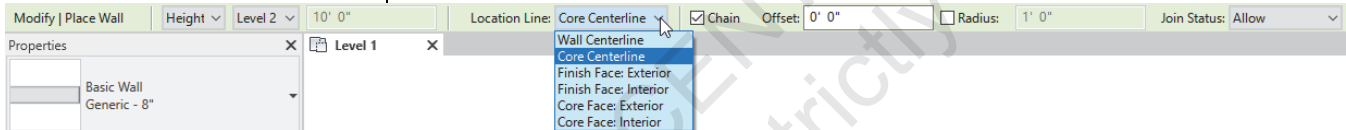

Figure 1–5
4. In the *Modify | Place Wall* tab>Draw panel (shown in Figure 1–6), select one of the options to create the wall.